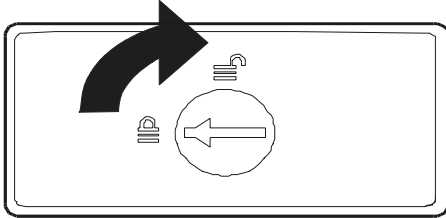

Figure 24 Door Lock
3. Unlock and open the disk system door, using a thin flat-blade screwdriver to turn the lock (Figure 24).